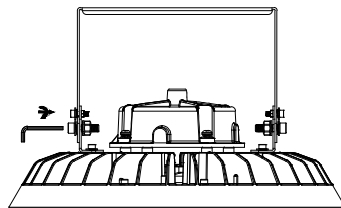

Figure 5
② Fasten the mounting bracket to the luminaire with screws (Figure5)